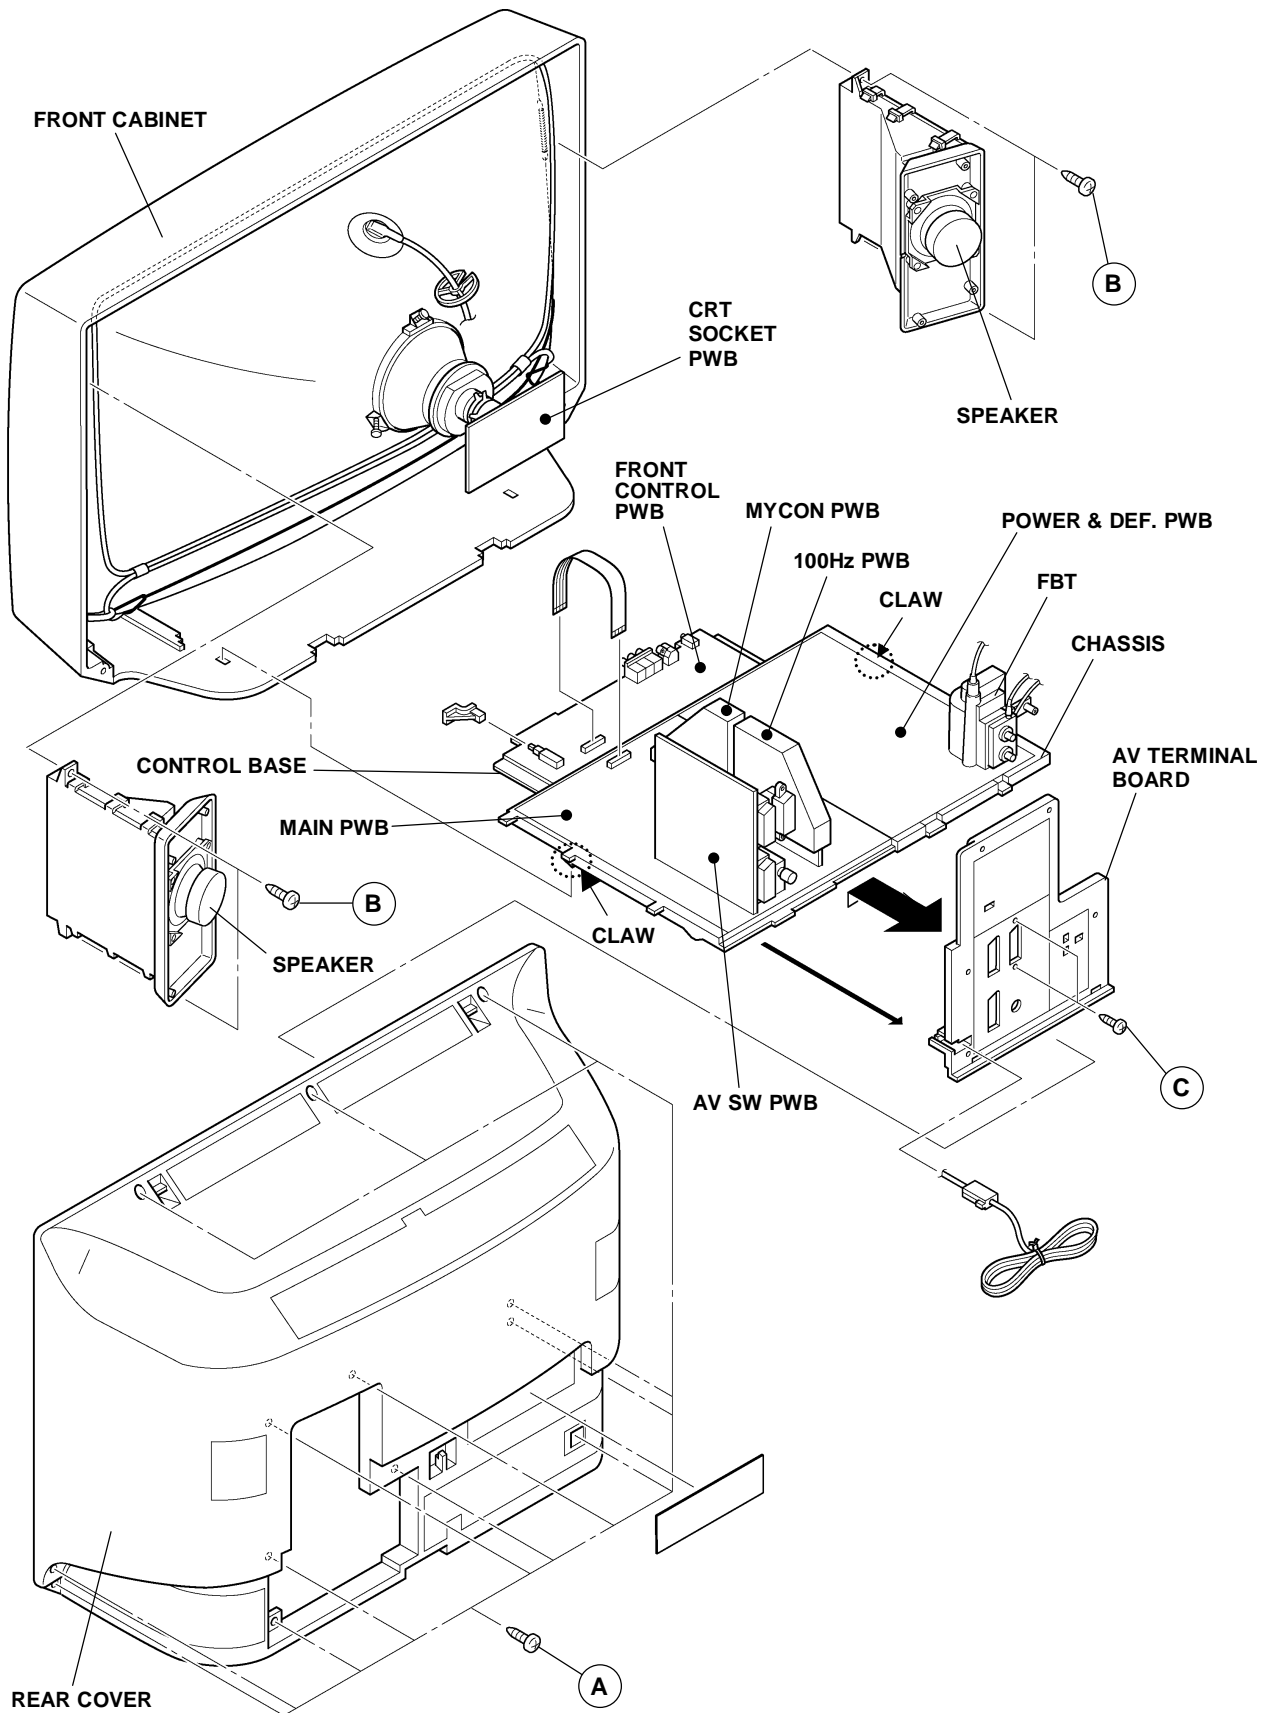

Fig. 1
2. Remove the 13 screws marked (A) as shown in the Fig. 1.
1. Remove the 2 screws marked (C) as shown in the Fig. 1.
1. Remove the 2 screws marked * as shown in Fig. 1.